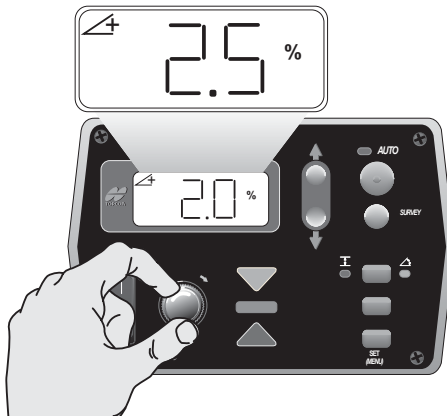

Figure 4-5. Adjusting Cross Slope Control
- Knob adjusts the percentage of slope while in cross slope control (Figure 4-5).